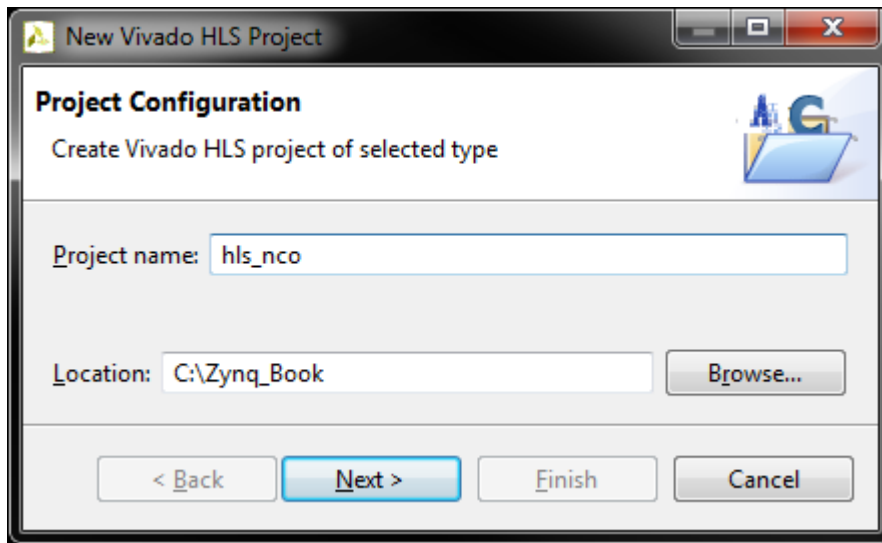

Figure 4.25: Vivado HLS New Project Wizard
- (c) Select the option to **Create New Project** and the *New Vivado HLS Project Wizard* will open, as in Figure 4.25.
Ensure that the options match those in Figure 4.25, and click **Next**.